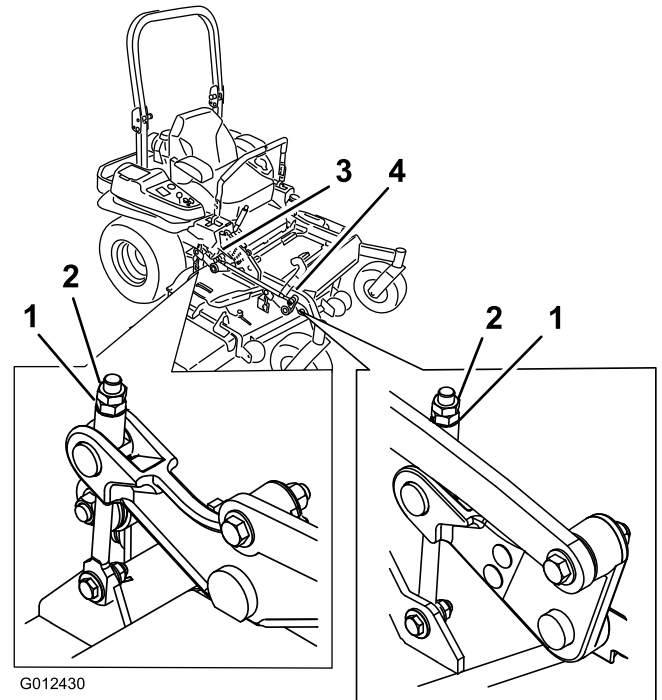

Figure 90
10. Fine-tune the adjustment nut on the front deck lift assembly by turning it (Figure 90).
16. Fine-tune the adjustment nut on the front deck lift assembly by turning it (Figure 90).